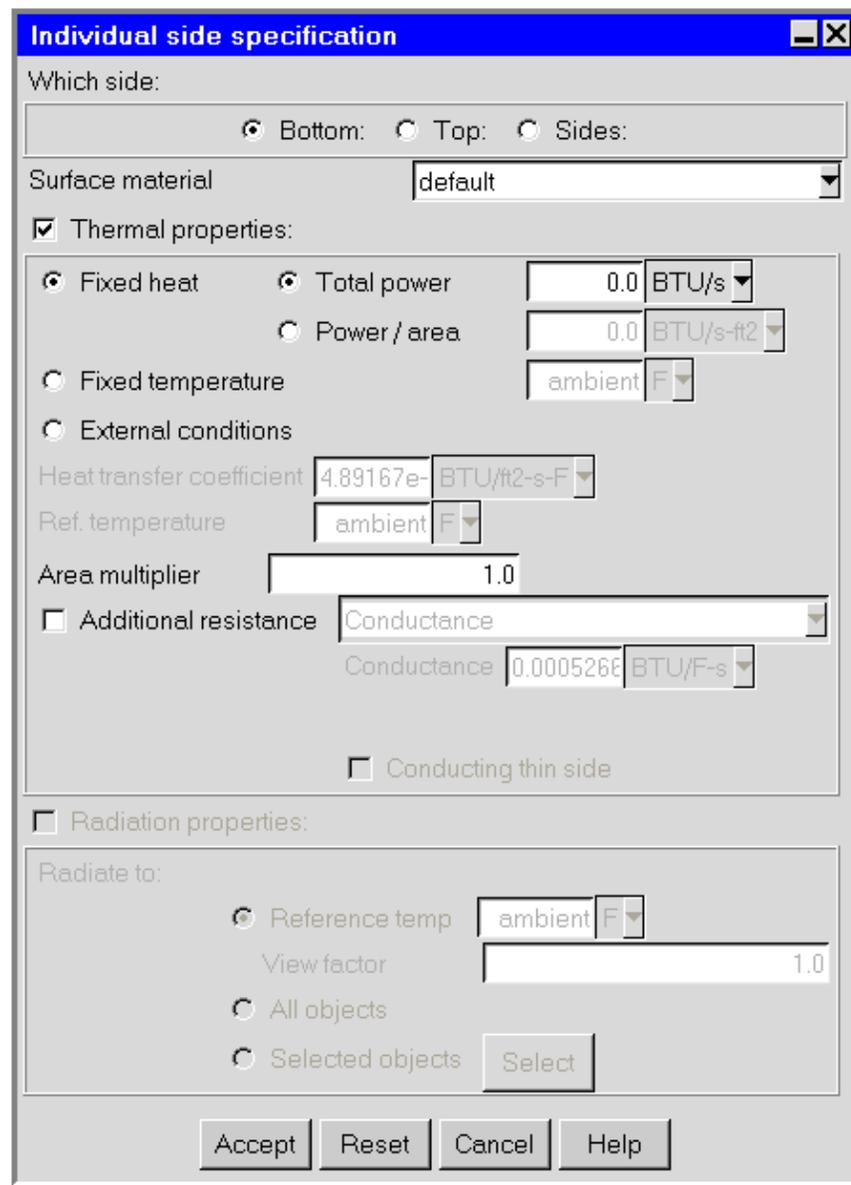

Figure 4.16: Individual Side Specification Panel
- iv. Turn on the Thermal properties option for Bottom, Top and Sides and keep the default parameters. See Figure 4.16.